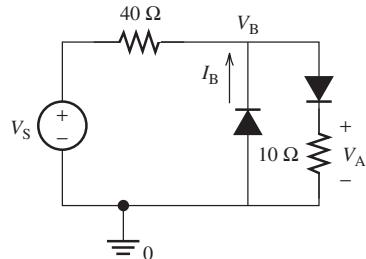

FIGURE P8.12 Circuit for Problem 8.12.
- 8.12 (A) Write the expression of I_B in the terms of voltage across the 10-Ω resistor, V_A , that is shown in Figure P8.12. Assume that both diodes are on and that $V_S = 10$ V.